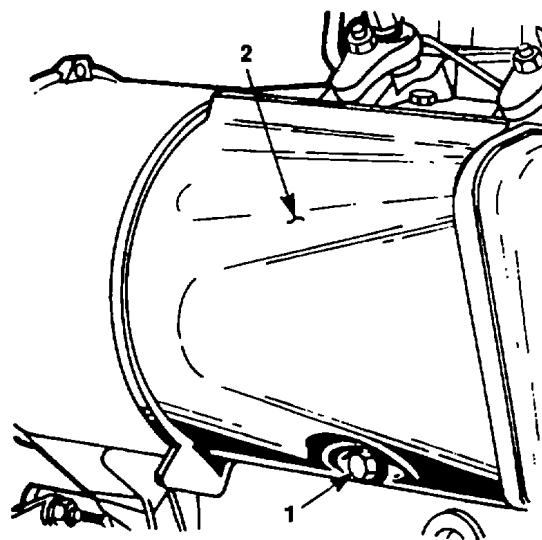
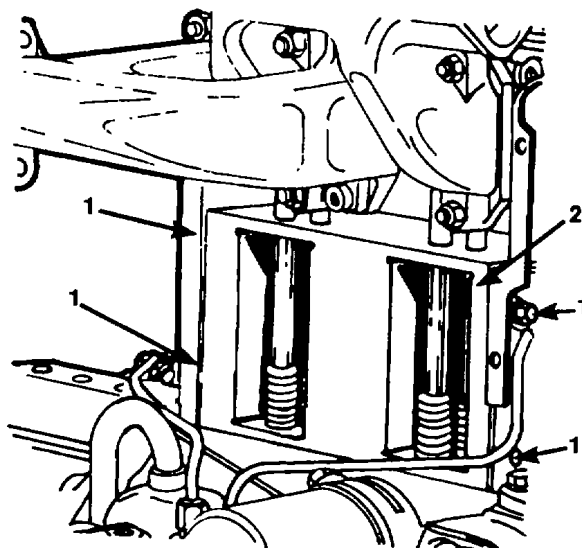

Figure 3-33. Air Cooling
Figure 3-34. Waste Air Box
- c. For inspecting and cleaning, proceed by removing hex bolt (1, figure 3-33) securing air cowling hood (2) on the alternator side, and removing the hood. Then on exhaust side, detach baffle by removing two hex bolts. Inspect gasket; replace, if required. If further inspection is required on the exhaust side, remove the oil bath air cleaner assembly by removing two bolts. Inspect gasket; replace, if required. Remove four bolts (1, figure 3-34), lock washers, and washers that secure the exhaust side deflection cover (2) in place. Place deflection cover and tighten bolts, lock washers, and washers. Replace the oil bath air cleaner assembly. Tighten bolts.